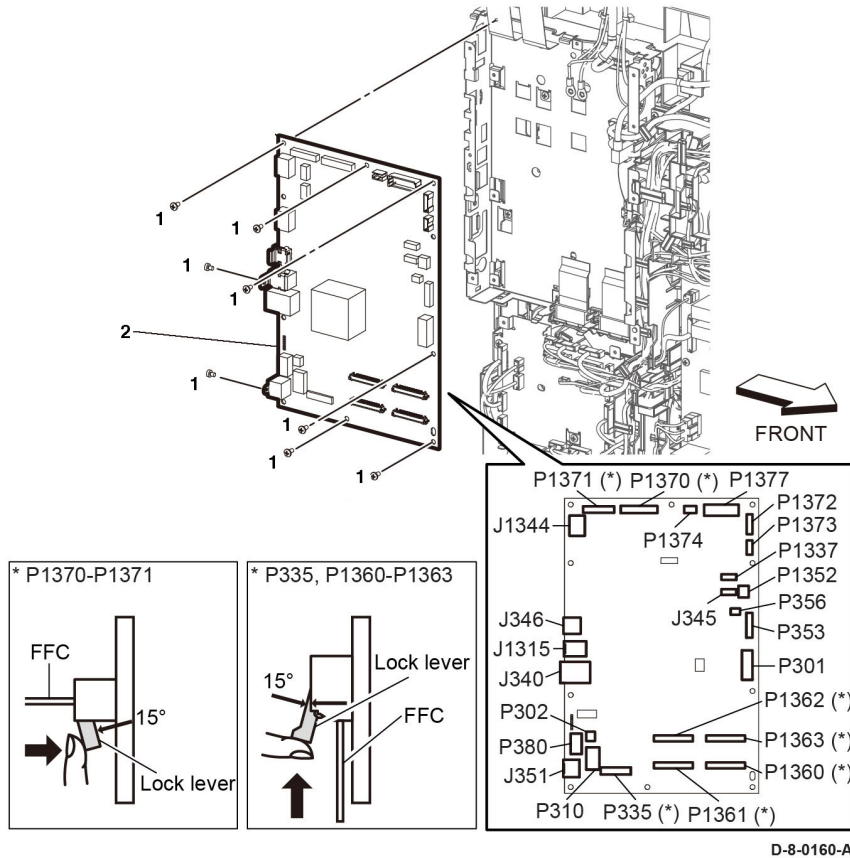

Figure 2 Remove the PWB ESS.
2. Remove the ESS PWB, Figure 2:
- b. Remove eight screws (1), then remove the ESS PWB (2).